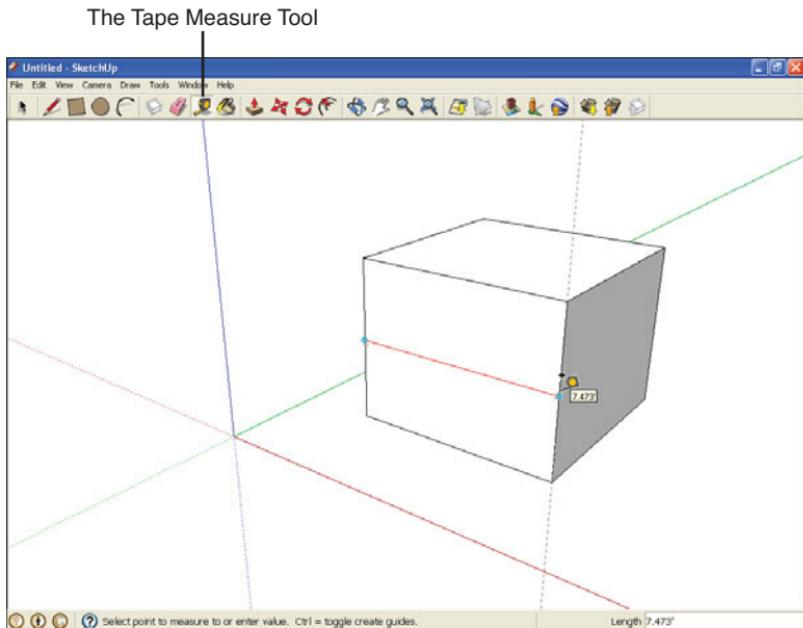

FIGURE 9.14 Using the Tape Measure tool.
4. Select the **Tape Measure tool** in the Getting Started toolbar (shown in Figure 9.14).
6. Move the mouse to the opposite edge of the cube. You can see this at work in Figure 9.14.
You can see the width of the cube face in two places in Figure 9.14—in a ToolTip at the location of the Tape Measure tool (which reads 7.473') and in the Value Control Box, or VCB, at the lower right in SketchUp.